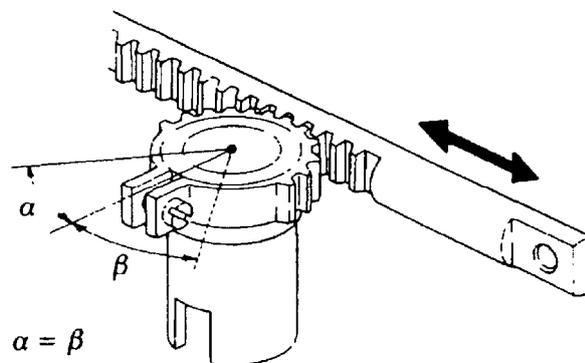

Figure 78 Control Sleeve and Control Pinion Setting Position
- h. If previously removed, position the control pinions onto the control sleeves with the slit in the control pinion aligned with one of the plunger slots in the control sleeve (Figure 78) and tighten the locking screws to secure the control pinion in position.
- j. With all control sleeve assemblies installed, move the control rack back and forth and check that the control sleeves rotate equal amounts from the centre position as the control rack is moved in both directions (Figure 78).